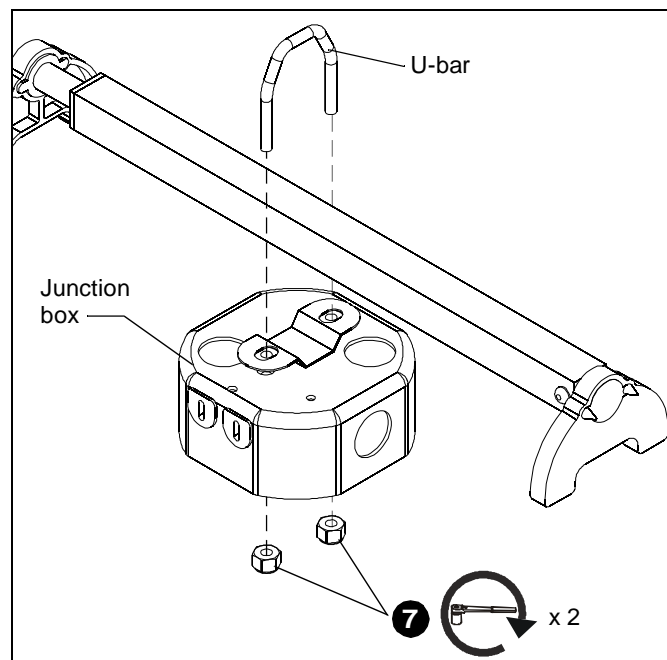

Figure 3
7. Place junction box onto U bar and tighten nuts. (See Figure 3)